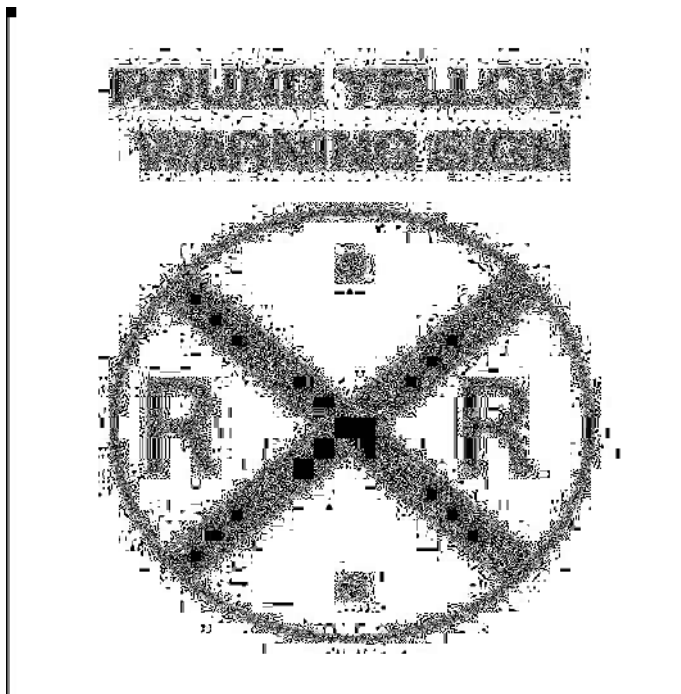

Figure 13.5
**13.4.2 - Warning Signs and Devices Advance Warning Signs.** The round, black-on-yellow warning sign is placed ahead of a public railroad-highway crossing. The advance warning sign tells you to slow down, look and listen for the train, and be prepared to stop at the tracks if a train is coming. See Figure 13.5.